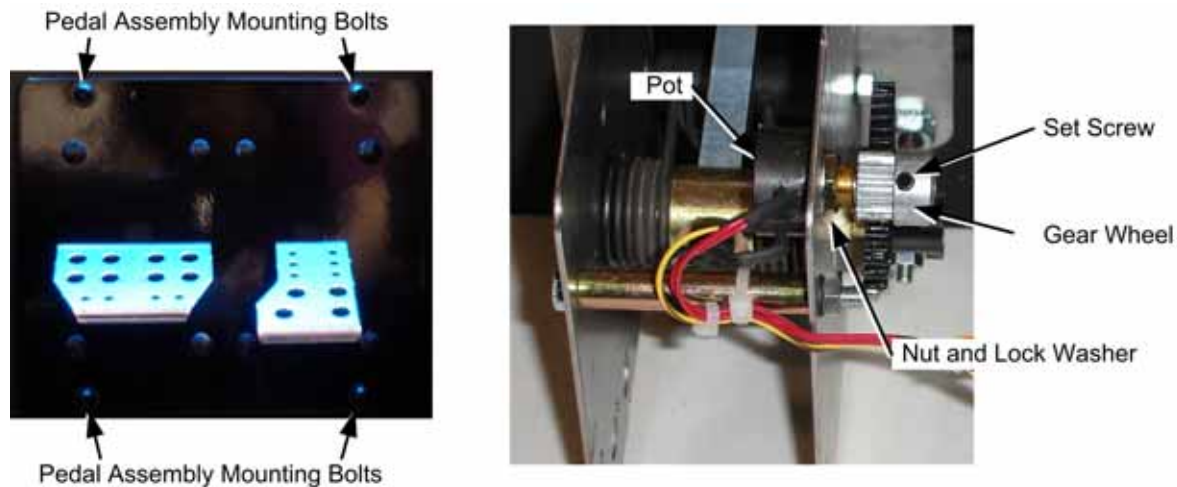

Figure 21. Pedal Assembly Details
2. Remove the four (4) 1/4-20 Security Torx bolts that secure the pedal assembly to the cabinet, as shown by the arrows in the first part of Figure 21.
To replace a pot, refer to Figure 21 and perform the following steps:
2. Using a 7/64 Allen wrench, loosen the set screw from the gear wheel and remove the gear wheel, as shown in Figure 21.